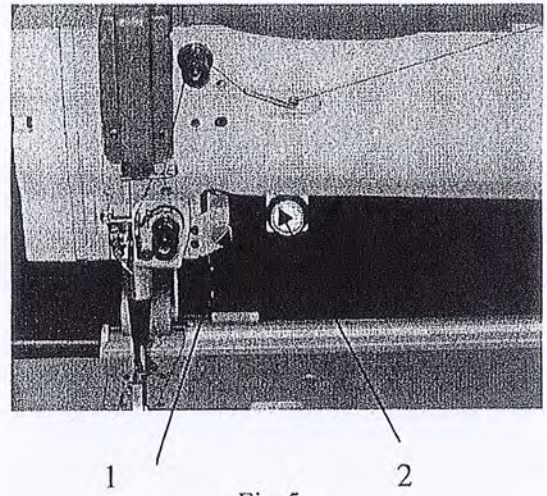

Fig.5
To feed the work toward you ,press down the switch for reverse feeding(1) .To compensate one or more stitch ,press down the switch for stitch compensation (2). (Fig.5)